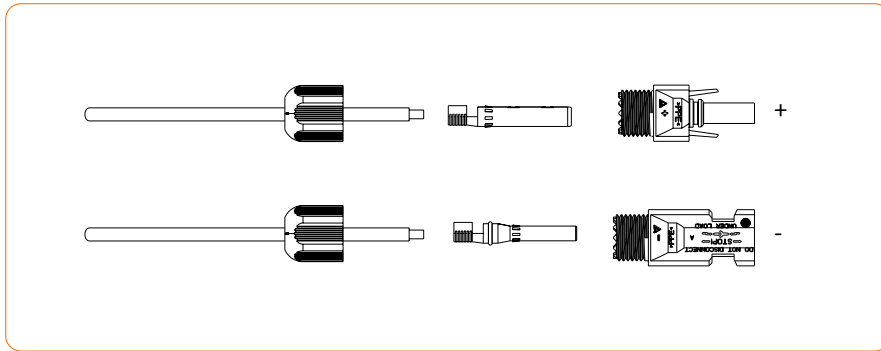

Figure 4-13
3) Disassemble the connector in the accessory bag, as shown in Figure 4-13: